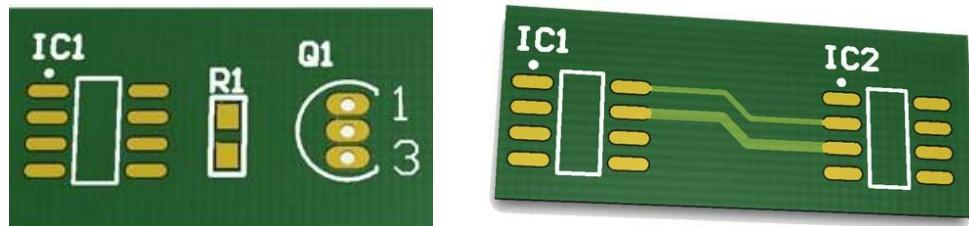
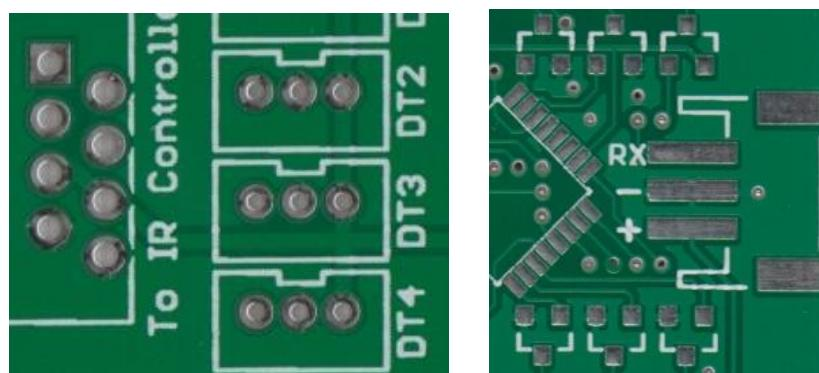

Figure 8. Pads and Tracks
Figure 9. PTH (plated through-hole) pads on the left, SMD (surface mount device) pads on the right
**Pad:** is a portion of exposed metal on the surface of a board to which a component is soldered (check Figure 8). There are 2 types of pads; thru-hole and smd (surface mount) (check Figure 9).